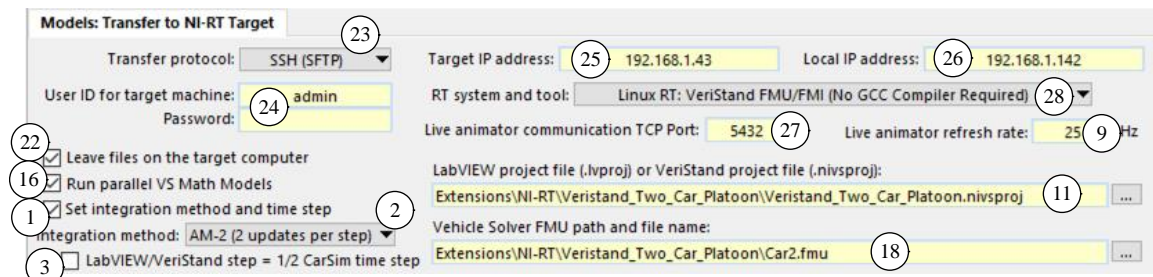

Figure 23. Top of the Models: Transfer to NI RT Target library screen.
Figure 23 shows the top of the **Transfer to NI-RT Target** with the controls numbered for compatibility with earlier sections. New controls are described below.
4. **Linux RT: FMU/FMI:** a field is shown for the pathname of the FMU file that will be created (18) (Figure 23).
- (29) Pathname for the GNU C/C++ compiler. This field is shown only for the third option of the drop-down control (28). This control only exists on this screen.